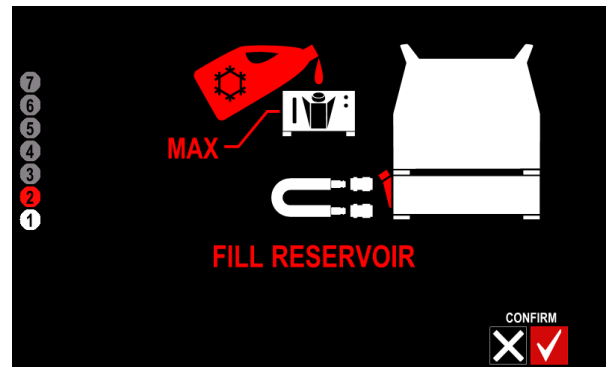

Figure 15
- Fill the coolant reservoir to the maximum level – 4,5 liter - (Figure 15 or 23).